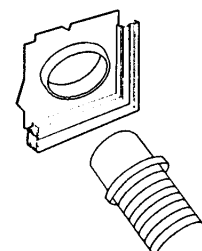

Figure 4
Step 4 Position the air conditioner unit near to the window and insert the air flexible air outlet tube into the porthole (see figure 4).